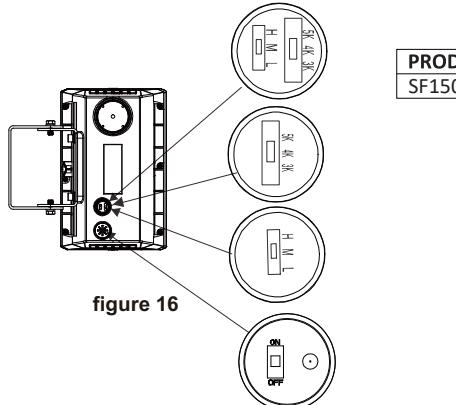

figure 16
- Step 2: After adjusting the required control function, tighten the metal plug clockwise(Figure 16).